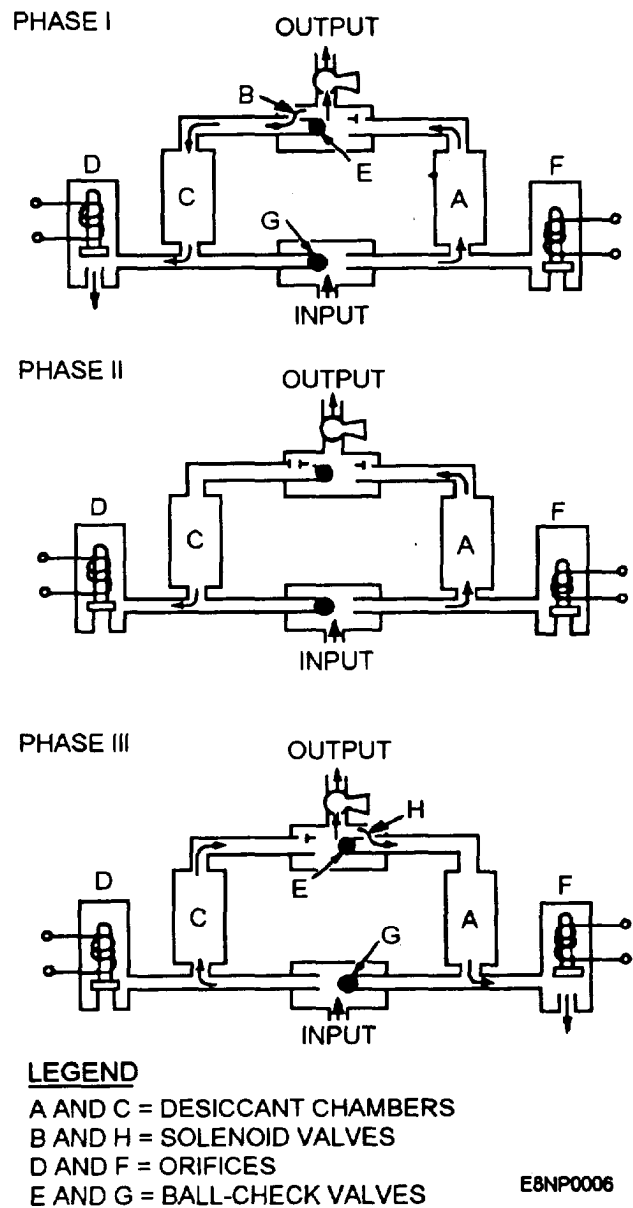

Figure 2-6.—Dehydrator operating cycle.
Let us take a detailed look at the operation of a dehydrator. We'll consider a complete cycle of operation. Refer to figure 2-6, phases I, 11, and III for the following descriptions.
**PHASE I—DRY/PURGE.**— The solenoid valve (F) is closed. Solenoid valve (D) is open. Incoming moist air, under pressure, flows through chamber (A), where it is dried. Most of this dry air is passed through the outlet conduit to be put to use. A small quantity, however, bypasses the closed ball-check valve (E) through a small orifice (B) into chamber (C). Here it picks up moisture from the partially saturated desiccant and passes out of the unit through the open valve (D). Since the chamber being purged is at near-atmospheric pressure, the ball-check valves (E) and (G) are held in place by the pressure of the main airflow.
**PHASE II—DWELL.**— The timer closes both solenoid valves (D) and (F). This allows the pressure in the regenerated chamber (C) to build up through the orifice to approximately that of chamber A.
**PHASE III—DRY/PURGE.**— In figure 2-6 (phase III), the solenoid valve (F) is opened by the timer; solenoid valve (D) remains closed. The pressure in chamber (A) drops immediately, causing the ball-check valves (E) and (G) to move rapidly to the right, sealing off chamber (A) and directing the main airflow through chamber (C) where it is dried. A portion of this dry air, leaking through orifice (H), passes through chamber (A) where it picks up moisture and is emitted to the atmosphere through valve (F). After completing another dwell period, the cycle repeats.